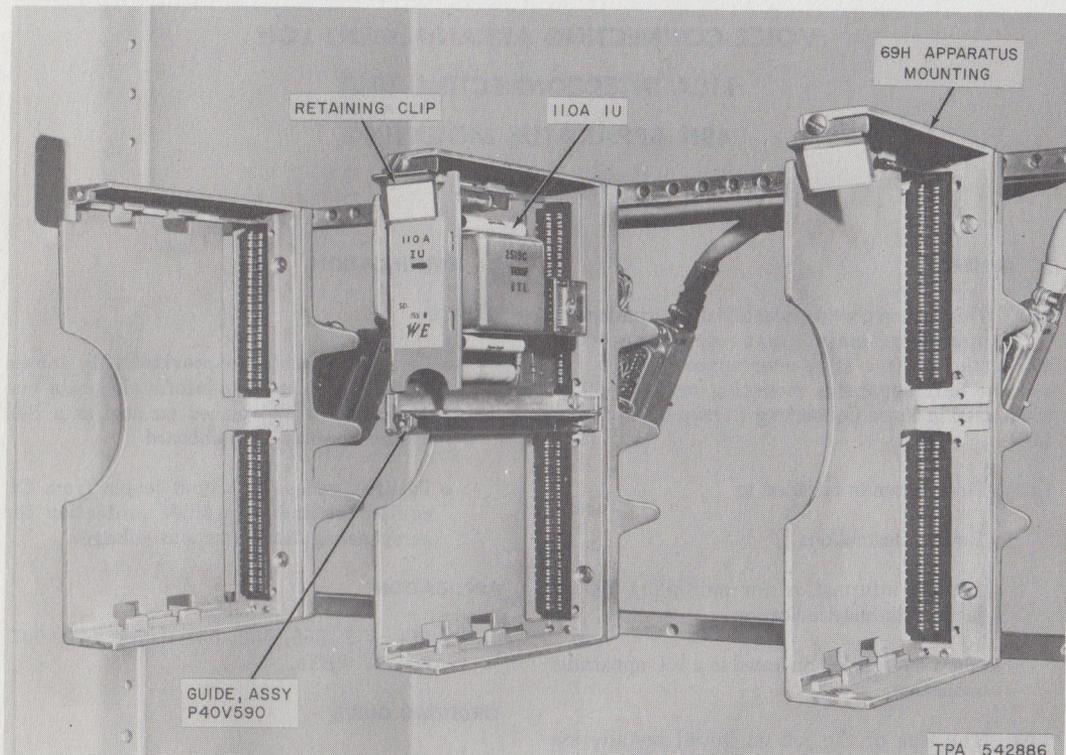

Fig. 1—69H Apparatus Mounting Mounted on Relay Rack
- Unit, Interconnecting, 110A (Fig. 1 as required).
For 69H Apparatus Mounting (Fig. 1)